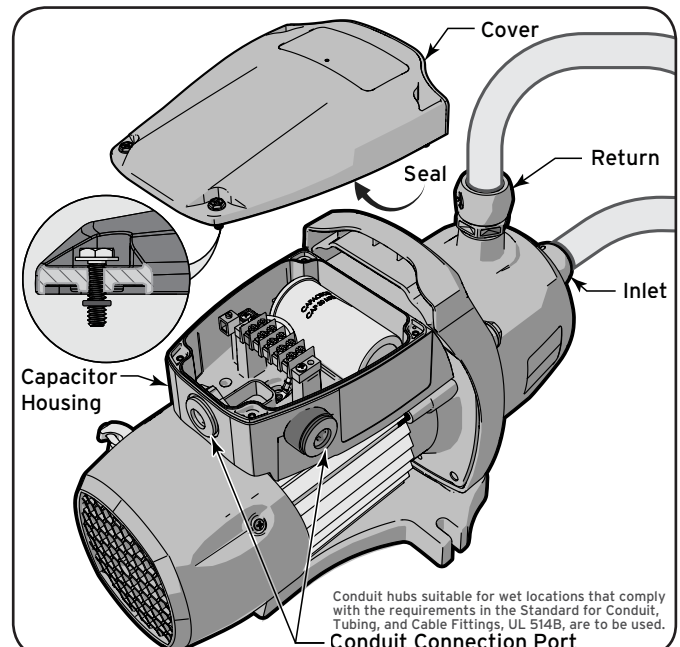

Figure 4. Removing Electrical Access Cover
5. Loosen do not remove the 4 screws securing the electrical housing cover to the pump body. See Figure 4.
1. Remove plug from conduit connection port. See Figure 4.
5. Secure the electrical housing cover using 4 screws. See Figure 4.